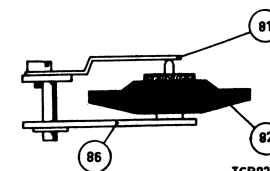

Fig. 2
- To prevent that the intermediate wheel item 82 is affected by grease, a felt ring has been fitted around the thrust bearing. However, for this the thrust bearing had to be raised and consequently, leaf spring item 81 also. This spring now has become a bracket. At present, the construction is as shown in Fig. 2. Both intermediate wheels cannot be interchanged. Therefore, when mounting a new intermediate wheel, leaf spring item 81 should also be replaced by the new bracket item 81. Code number new intermediate wheel item 82: 4822 212 00956